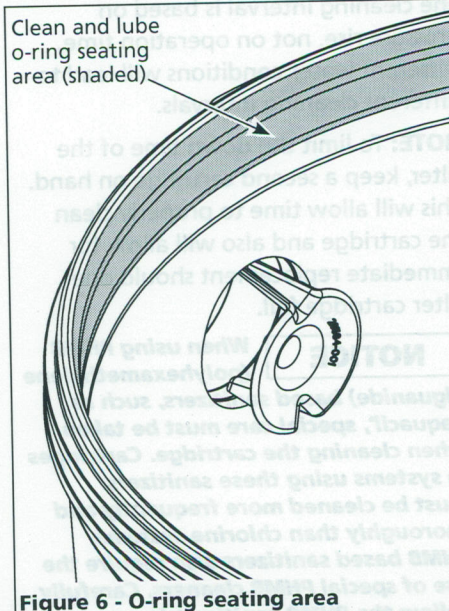

Figure 6 - O-ring seating area
3. Clean the o-ring seating area on the inside of the base (Figure 6). Lightly lubricate with silicone based grease.